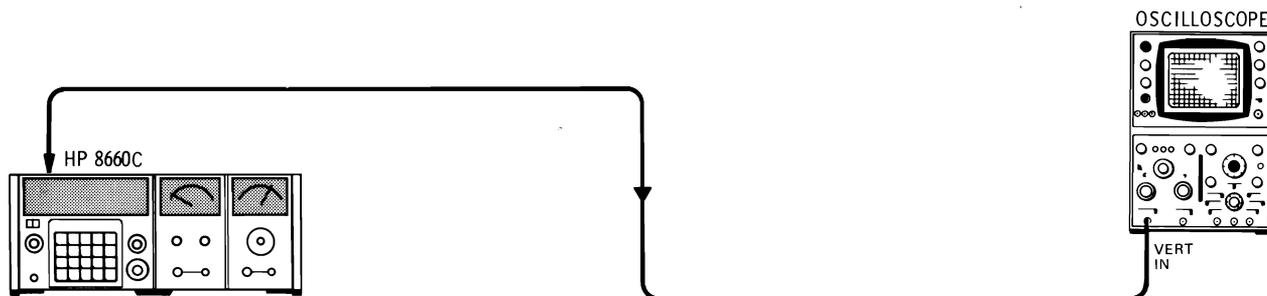

Figure 5-6. Oscilloscope Level Checks Test Setup
a. Check the outputs listed in Table 5-3 for the levels shown (see Figure 5-6).